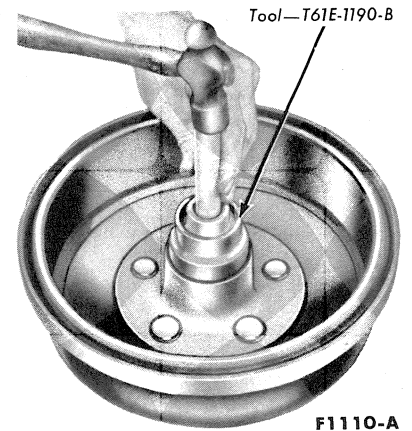

FIG. 9—Installing Front Wheel Grease Retainer
12. Place the inner bearing cone and roller assembly in the inner cup, and install the new grease retainer as shown in Fig. 9. The opposite end of the tool T60K-1217-A shown in Fig. 9 can also be used to install the retainer. **Be sure that the retainer is properly seated.**